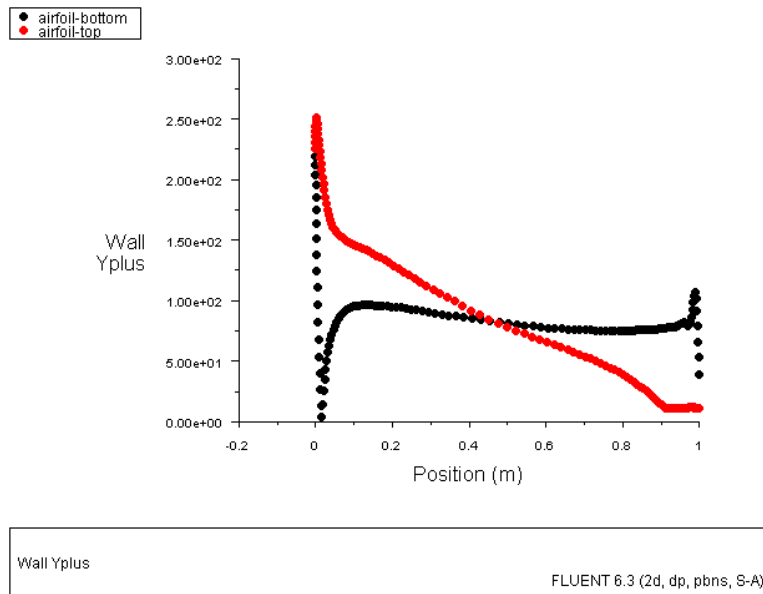

Figure 5.7: Wall Yplus Plot
12. Check the Y^+ values around airfoil (Figure 5.7).